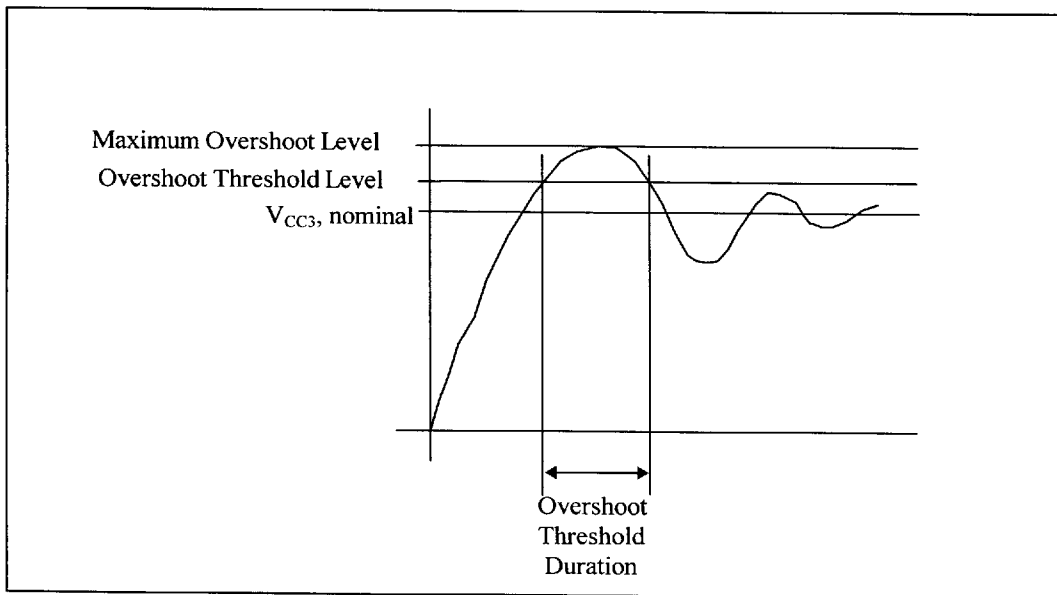

Figure 16. Maximum Overshoot Level, Overshoot Threshold Level, and Overshoot Threshold Duration
2. See Figures 16 and 17.
These overshoot and undershoot specifications are illustrated graphically in Figures 16 through 19.